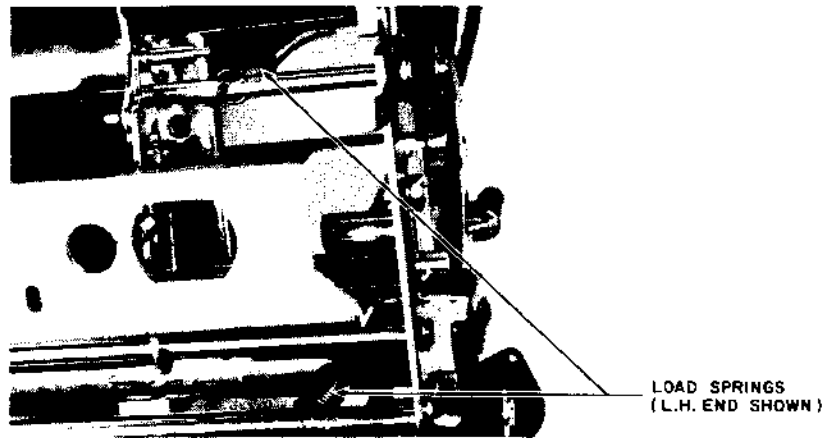

Figure 3-8. Carrier System Removal—A
- (1) Remove the printer from the bottom cover following the procedure in 3.3.5 and place the printer on a sturdy work bench or table.
- (2) Remove the ribbon cartridge and paper cradle and set them aside with the other accessories.
- (3) Stand the printer up on the front end of its main frame. Use a #99009 T-Handle Spring Hook to disengage the four Carrier System load springs from the printer's main frame (two long springs in front and two short springs in the rear). See Figure 3-8.
- (6) Using a tie wrap, secure the wire bundle to the right side frame at the paper feed motor. Replace the felt wiper, the paper feed idler gear, and the E-ring.
- (7) Stand the printer on the front end of its main frame. Use the #99009 T-Handle Spring Hook to connect the loose ends of the four Carrier Subassembly load springs to the main frame making use of the holes provided (see Figure 3-8).
- (8) Arrange the four paper feed motor wires and the two Paper-Out switch wires into the proper wire bundles running along the edge of the mother board. Connect the wires to the mother board as follows: